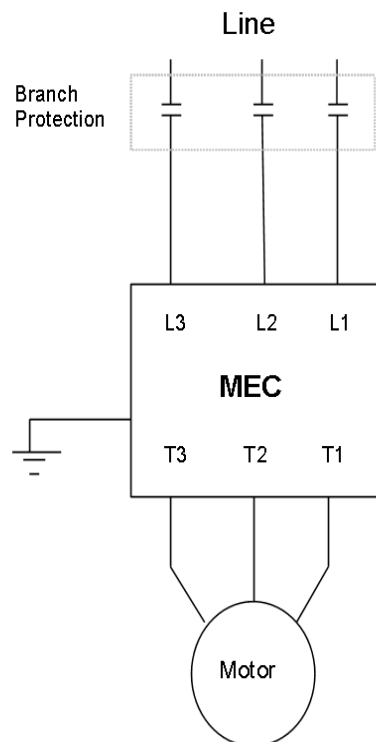

Figure 8 - Power Wiring
(1) Grounding Requirements
- The Dayton MEC and shielded cables should always be connected to a Safety Ground (PE).
(2) Fuses and Circuit Breakers
- This product is designed for use with upstream branch circuit protection as shown in Figure 8. Please see section 8.1 for specifications for circuit breakers and fuses.
- The Motor Efficiency Controller power wiring locations are shown above in Figure 8.